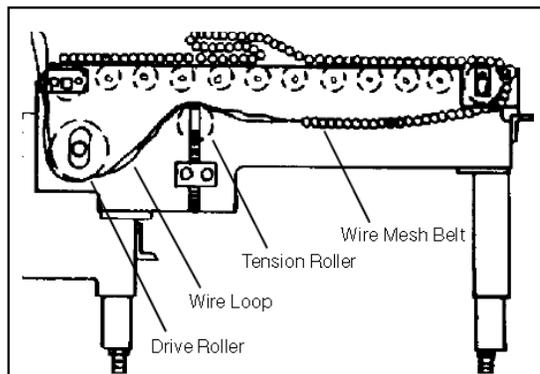

Fig. 3 Feed Wire Loop Over Tension Roller and Under Drive Roller
4. 4. Manually pull the wire loop underneath the rollers. Make sure to feed the wire loop over the top of the tension roller and under the drive pulley roller (Fig. 3).